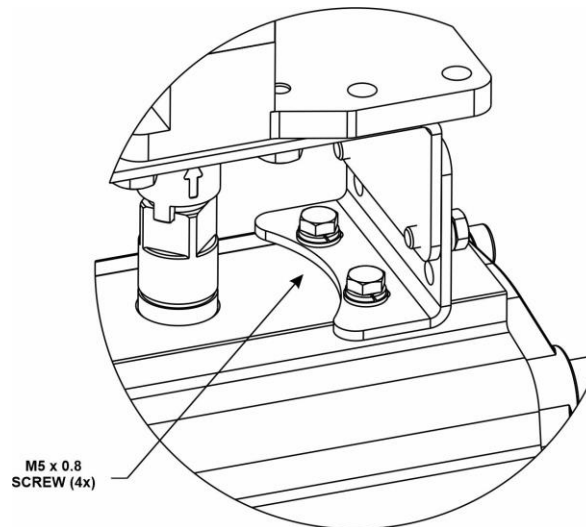

Figure 1.6 – Positioner quarter turn rotary actuator mounting
9. Install the mounting bracket on the actuator with four M5 x 0.8 screws and flat washers. See figure 1.6. When attaching the FY500 rotary adaptor to the actuator shaft, ensure that the center pin